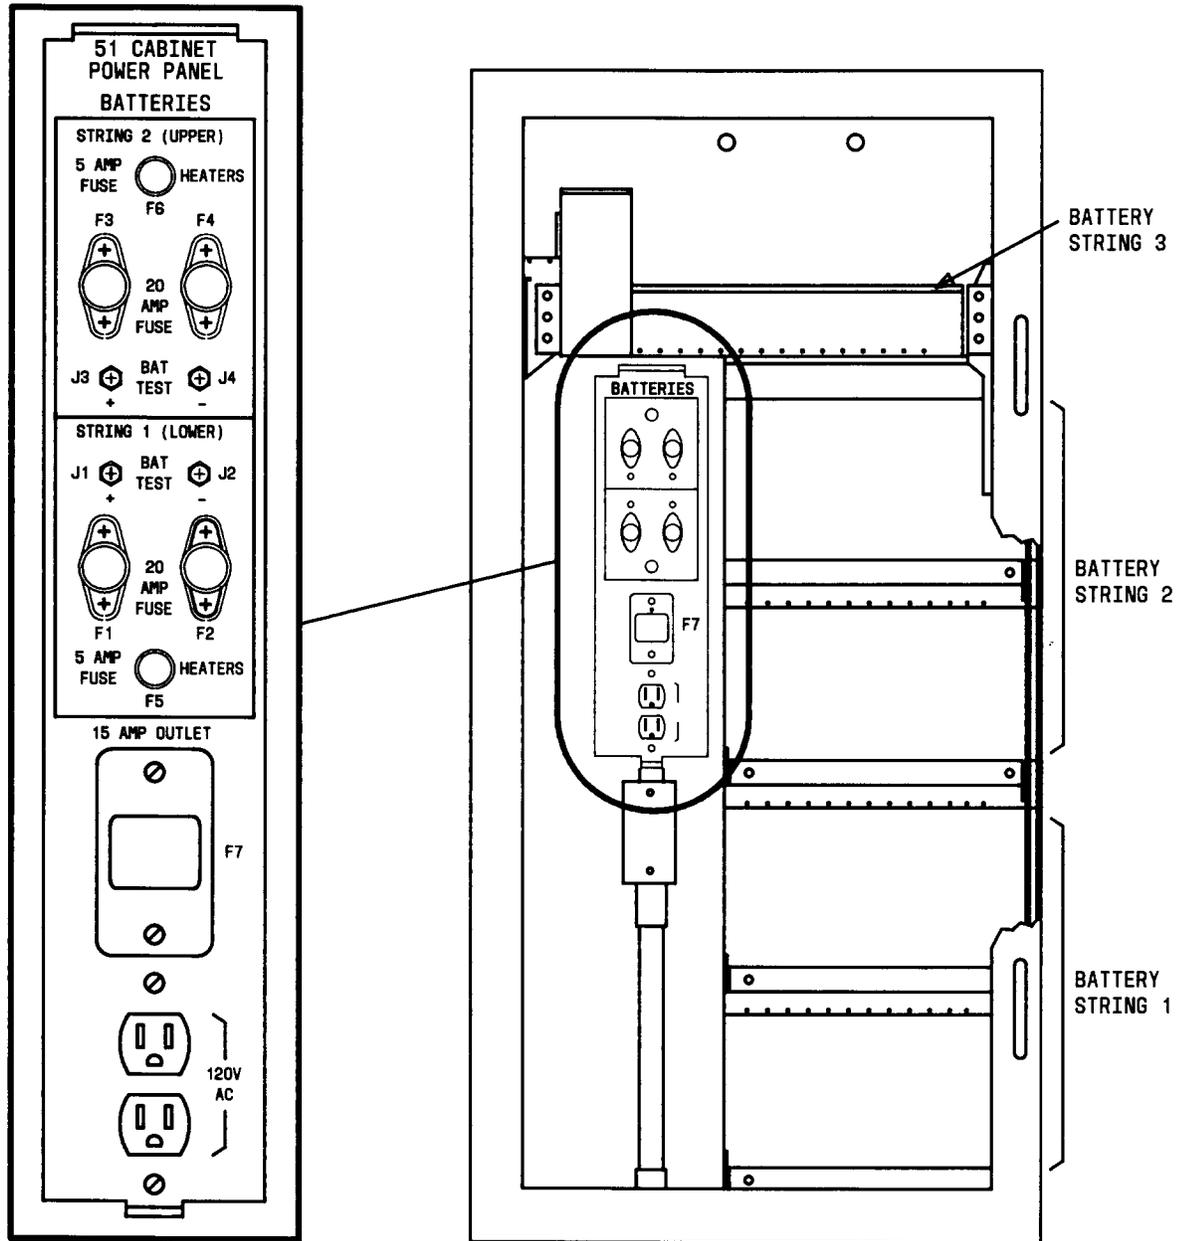

Fig. 1—Battery Section of 51A Cabinet Showing Control Box Assembly
5. In battery section of cabinet at control box assembly (Figure 1), remove fuses **F3**, **F4**, and **F6**.